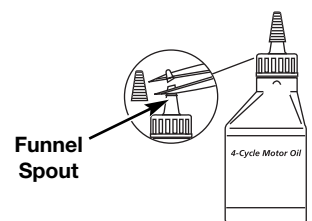

Fig. 1
Your unit is supplied with one 3.04 fluid oz. (90 ml) bottle of SAE 30 SF, SG, SH oil (Fig. 1).
- Unscrew the top of the bottle of oil and remove the paper seal covering the opening. Replace the top. Next, cut the tip off the funnel spout (Fig. 1).